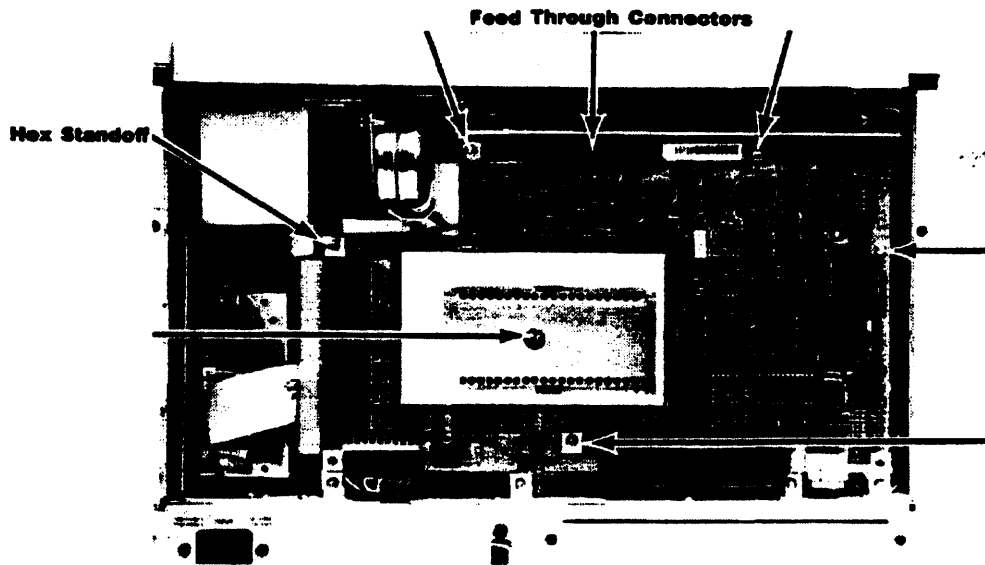

Figure 6-4. Logic A PCA Mounting Screws and Feed-Through Connector
4. Remove the five PCA mounting screws (see figure 6-4).
5. Use a 5.5-mm nutdriver to remove the hex standoff (figure 6-4). The PCA is now held in place by the pins in the feed-through connectors.